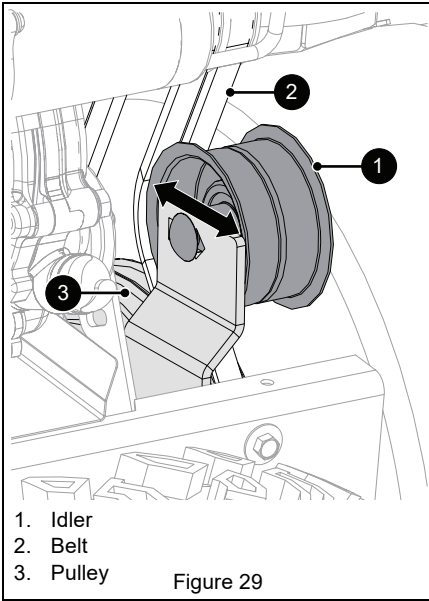

Figure 29
See Figure 29.
- If there is less than 1.6 mm (1/16") gap, loosen idler adjustment nut and move idler away from belt or pulley. Position idler to achieve a 1.6 mm (1/16") minimum brake pad gap and a 12.7 mm – 22.2 mm (1/2" – 7/8") gap between the plastic roller and the frame. See Figure 29.